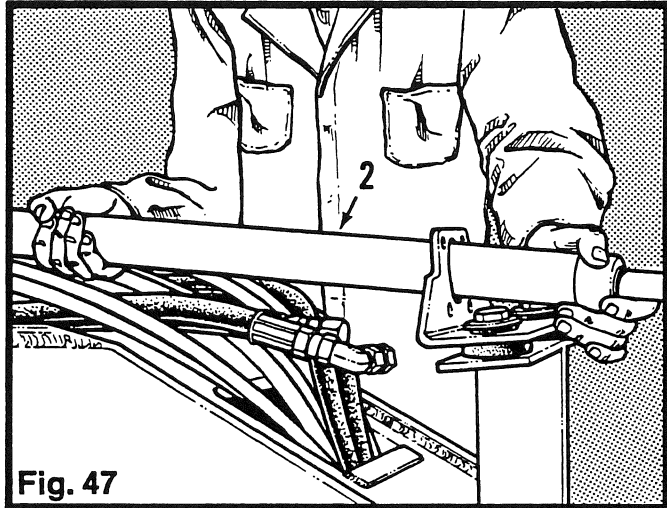

Fig. 47
6. Remove the steering column (2) from the grader. (Fig. 47)